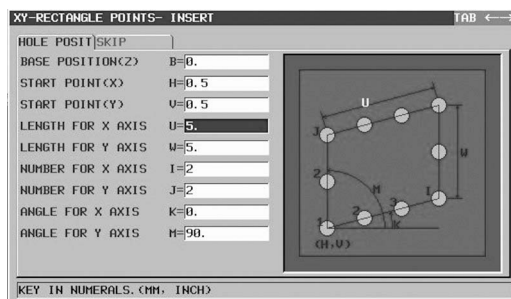

Figure 7-66 XY-RECTANGLE POINTS
- Complete the XY-RECTANGLE POINTS dialog, as shown in Figure 7-66, and press the INSERT soft key.
- Complete the fields exactly as you did for Spot Drilling the hole pattern in Figure 7-66 (**XY-RECTANGLE POINTS Hole Position**). Then press the INSERT soft key.
- Place the cursor at the EOB character and press the START soft key. Choose item 4. CYCLE END from the list of options and press the INSERT soft key.